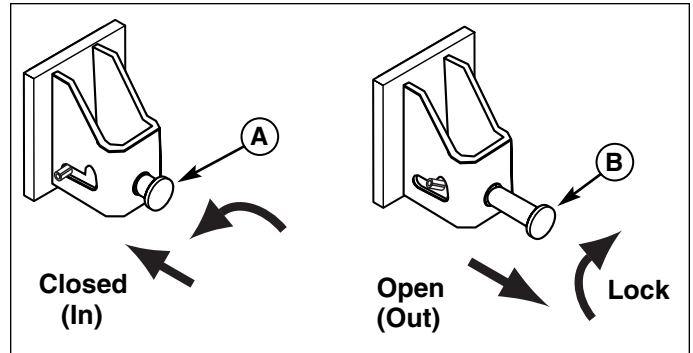
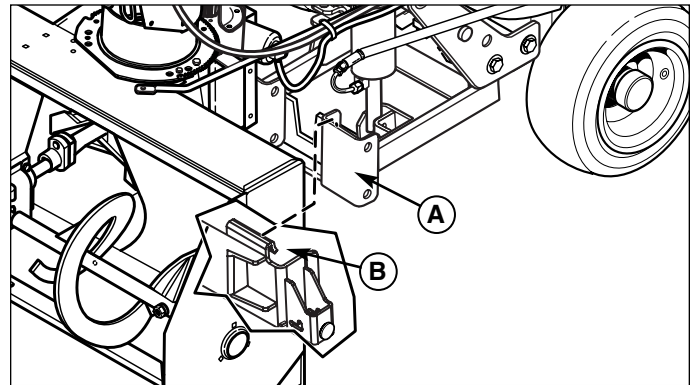

Figure 19. Shot Pins
Figure 20. Attaching the Snowthrower to the Hitch
2. See Figure 19. Pull the shot pins (B) back and locking them.
4. See Figure 20. Drive the tractor push bar under the snowthrower hitch point (B). The dozer snowthrower hitch points (B) need to line up side to side with the edges of the push bar (A). The snowthrower hitch points (B) will hang from the top edge of the push bar (A). Slowly lift the snowthrower 1/2 inch off the ground.
5. See Figure 19. Place snowthrower shot pins (A) in closed position.
8. Check that shot pins (Figure 19) are fully seated into push bar (A, Figure 20). If the shot pins do seat all the way in the Closed / In position repeat steps 1-8.
5. See Figure 19. Detach the snowthrower from the snowthrower hitch by moving the shot pins (B) into open position.